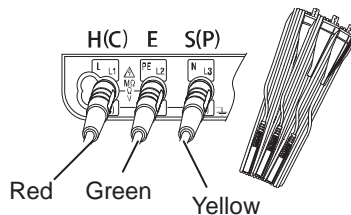

Fig. 44
2. Insert the Test Leads (Model7228: Optional Accessory) into the instrument. (Fig.44)